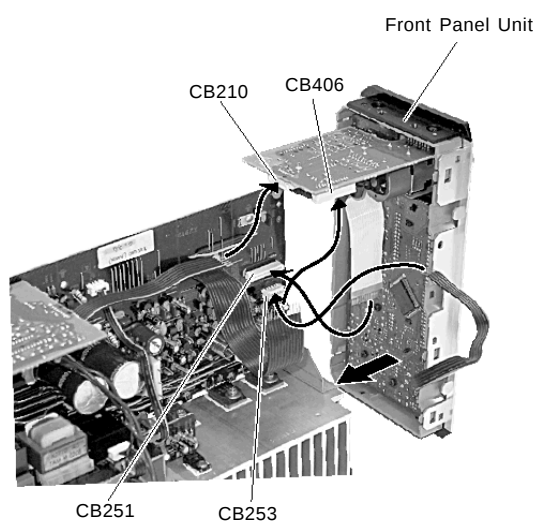

Fig. 5
- With the Front Panel Unit set on its side, connect 4 connectors (CB251, CB253, CB210, CB406) in Fig. 5.